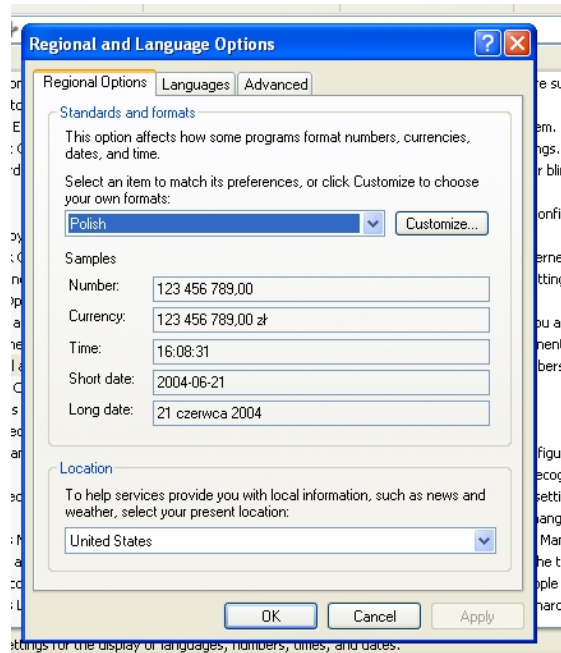
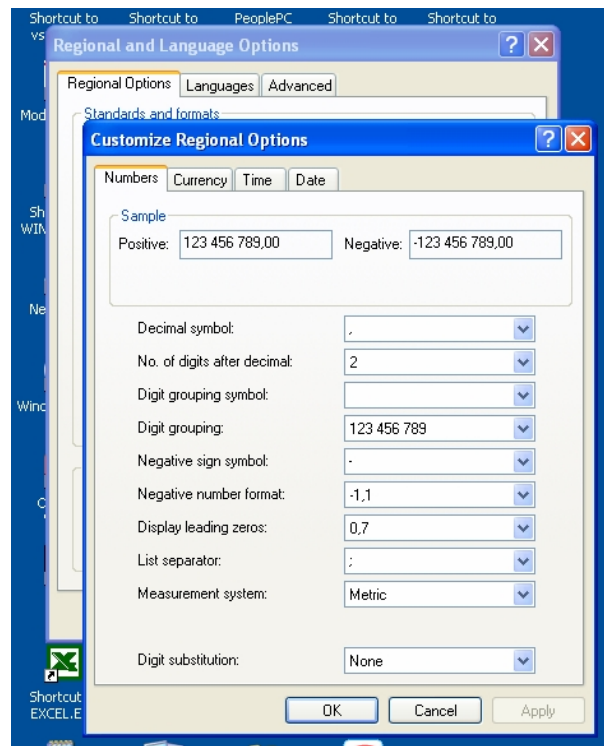
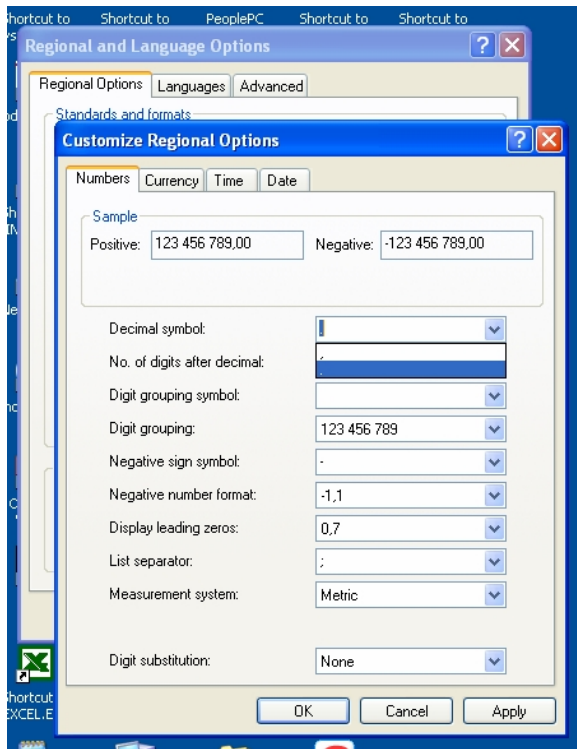
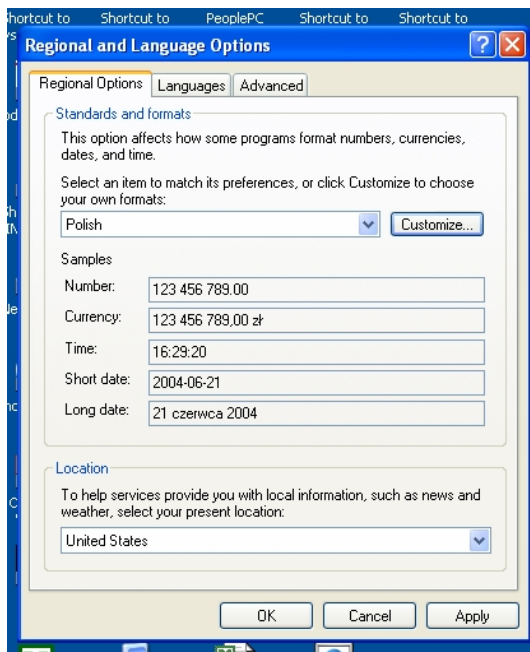

Figure 55: “Regional and Language Options” pop-up window – “Regional Options” tab
Figure 56: “Customize Regional Options” pop-up window
Figure 57: “Decimal symbol” select in the “Customize Regional Options” pop-up window
Figure 58: Return to the “Regional and Language Options” window after “Decimal symbol” changes
Step 7: In the “Regional and Language Options pop-up window click on the “Regional Options” tab as shown in Figure 55.
Step 8: Click on the “Customize” Tab in the “Regional Options” tab of the “Regional Language Options” pop-up window as shown in Figure 56.
Step 6: In the “Customize Regional Options” pop-up window, as shown in Figure 56, under the “Decimal symbol” option select “.” from the drop-down menu as shown in Figure 57. Click on “OK” in the “Customize Regional Options” window which will return you to the “Regional and Language Options Window as shown in Figure 58. Notice that under the “Number” section in this window the decimal separator of the number displayed is shown as a “.” (period) instead of its original setting in Figure 55 of a “,” (comma).
Step 7: In the “Regional and Language Options” window, as in Figure 58, click on “OK”. This will close all pop-windows and you will be back at the main “Control Panel” window on the desktop. Close this window by clicking on the “X” in the upper right hand corner of this window as in Figure 59.